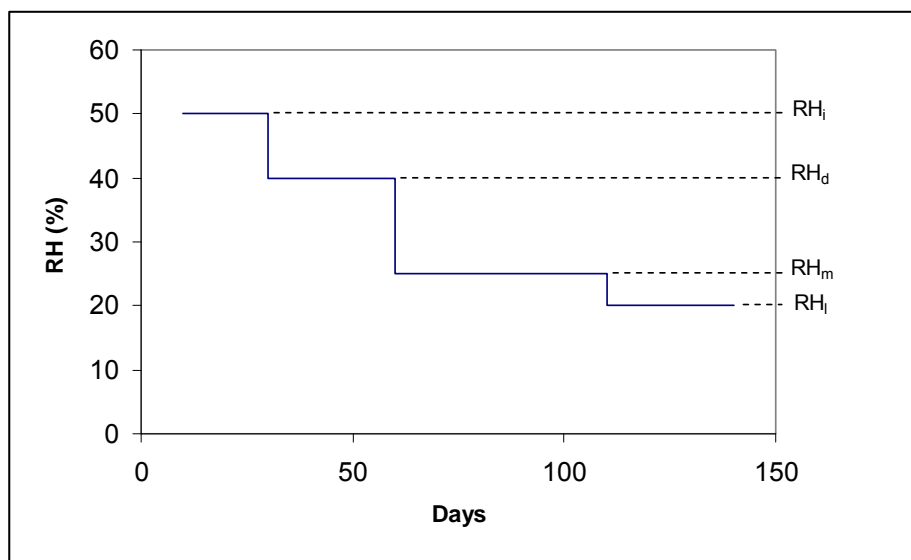

Figure 5. Example of time varying minimum daily relative humidity as specified in the Growth Stage Table.
6. Relative humidity (%) (RH) - The mean value for daily minimum relative humidity during the mid- or late season growth stage. Values are specified for each growth stage (Figure 5, Table 1). This information is used by LAWS to compute the value of KC_{max} used in the dual crop coefficient method. See **Technical Reference** Section.